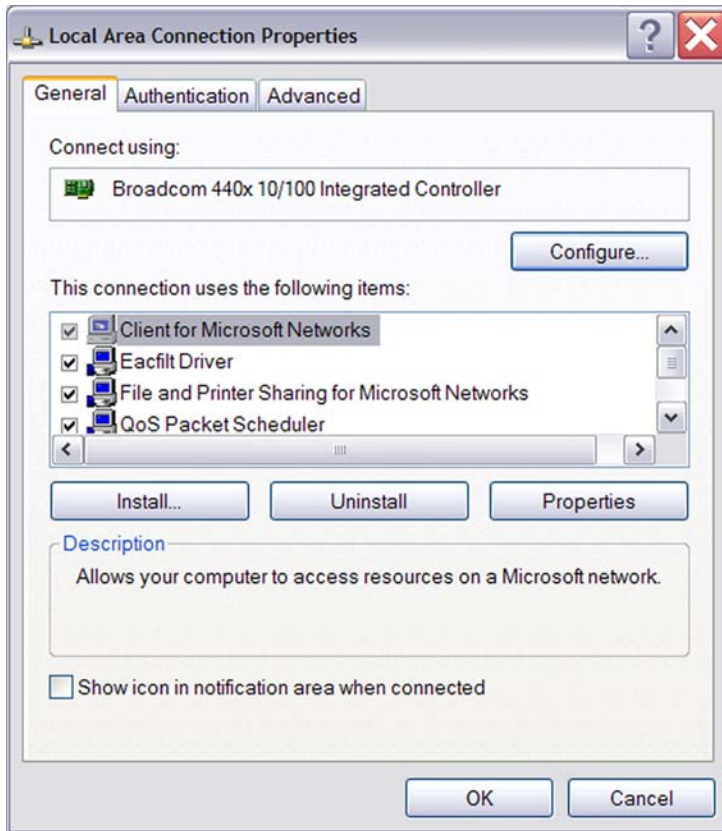

Figure 13. Local Area Connection Properties Dialog Box
3. In the **Local Area Connection Status** window, click **Properties** button. The **Local Area Connection Properties** dialog box appears, see Figure 13.